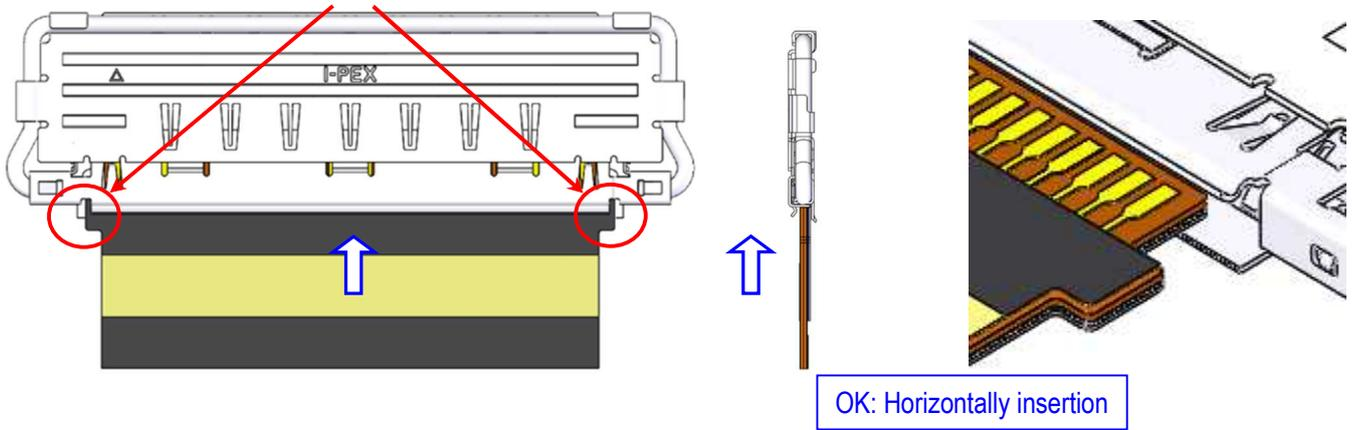

Fig.5 Checking FPC tab positions
- ② The FPC is pre-inserted until checking points of FPC tab positions, then shall be inserted horizontally along the bottom side of the SHELL. (Fig.5)